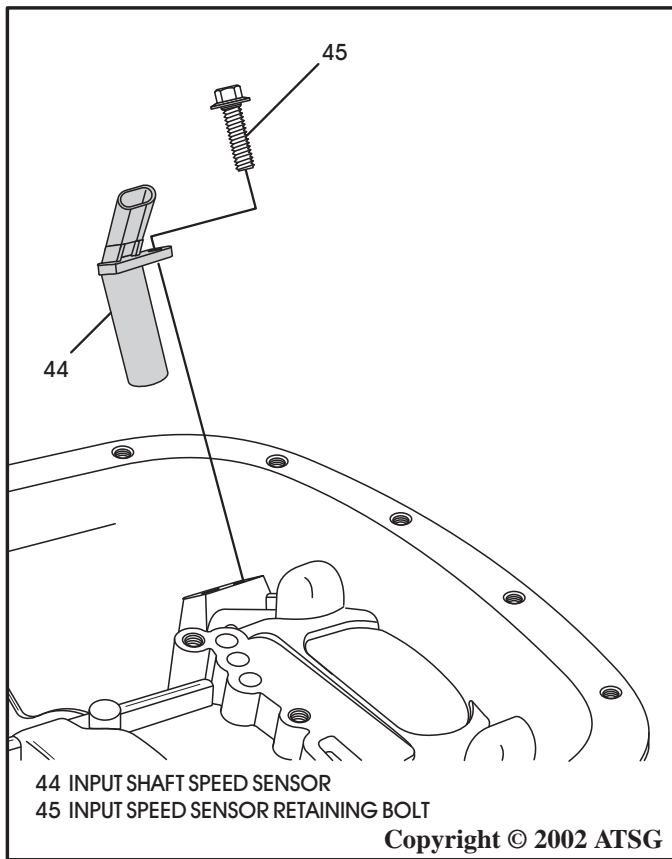

Figure 42
31. Remove input speed sensor retaining bolt and input speed sensor, as shown in Figure 42.